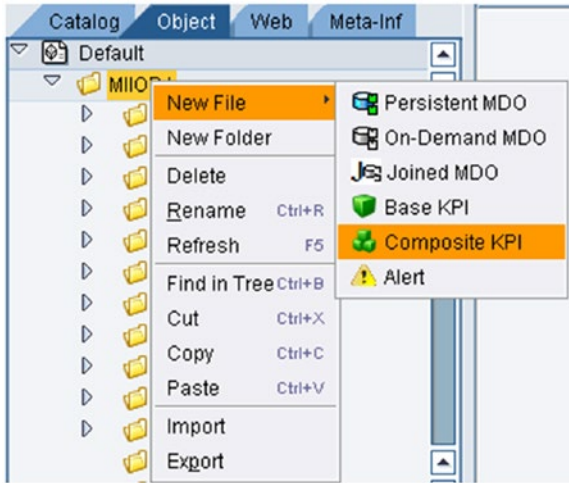

Figure 7-94. Selecting a composite KPI
4. Select New File ► Composite KPI, as shown in Figure 7-94.